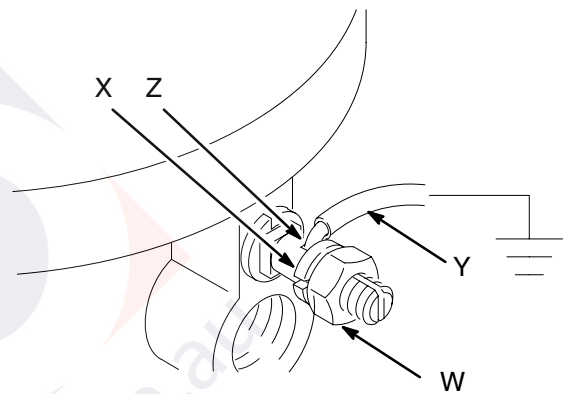

Fig. 1
1. *Pump:* use a ground wire and clamp as shown in Fig. 1. Loosen the grounding lug locknut (W) and washer (X). Insert one end of a 12 ga (1.5 mm2) minimum ground wire (Y) into the slot in lug (Z) and tighten the locknut securely. Connect the other end of the wire to a true earth ground. Order part number 222011 Grounding Clamp and Wire.